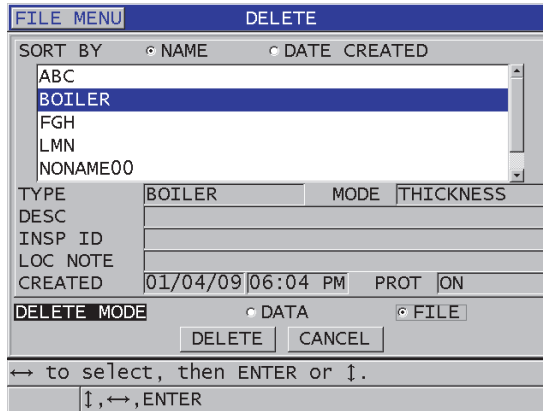

Figure 11-20 Deleting a file
3. In the **DELETE** screen (see Figure 11-20 on page 207):